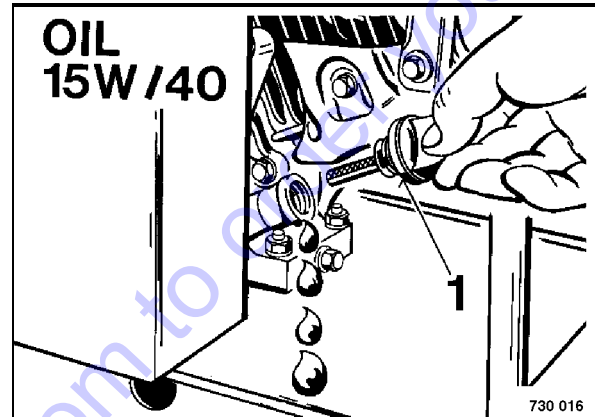

Fig. 26
- Unscrew the oil filler cap 1 (Fig. 26).